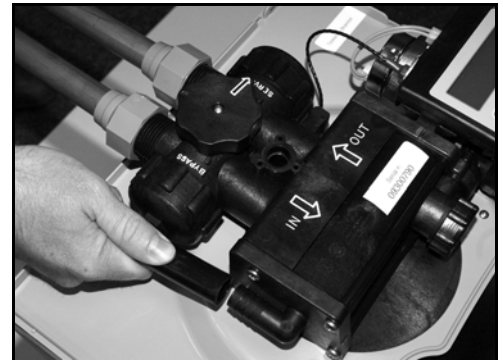

Figure 5: Connect Drain Line
- A. Connect the drain line to the drain end cap (See Figure 5) with a minimum 1/2-inch (12.7 mm) I.D. tubing (supplied). The size cannot be reduced.